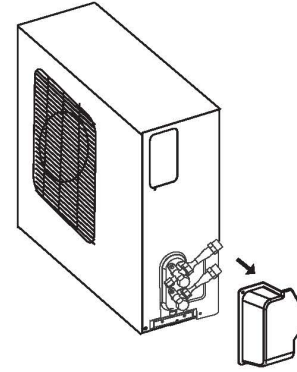

Fig.20
1. First remove the water tray on the outdoor unit as shown in Fig.20.